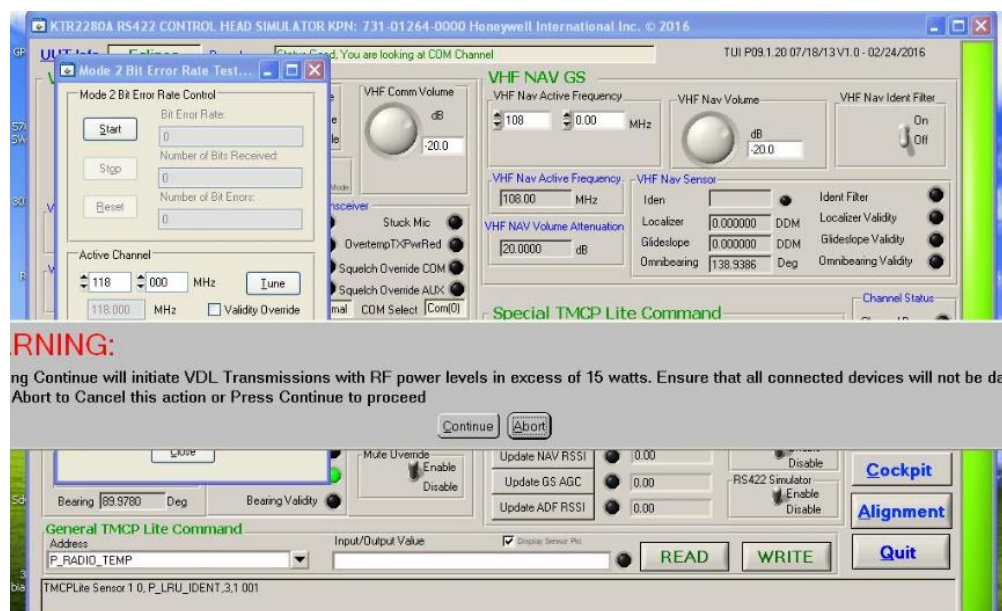

Figure 66 Warning Message
- 7) If Warning Message pops up click “Continue” (Figure 66)